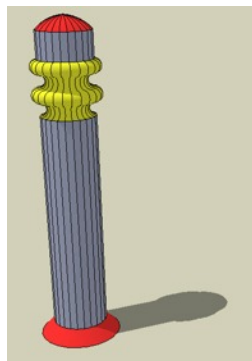

Figure 88. Material colours applied to the completed bollard with the Paint Bucket
- Use the **Paint Bucket** to apply material colours as shown in Figure 88.